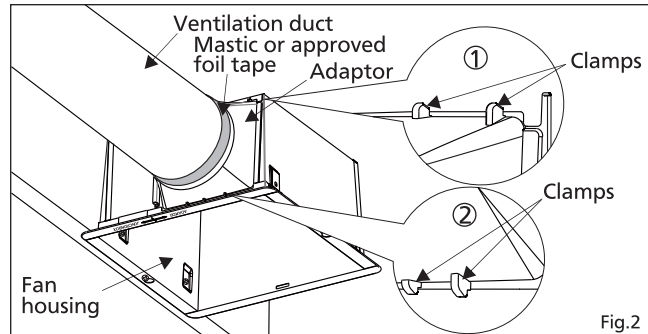

Fig.2
2. Install the ventilation duct and secure it with a clamp and seal it with mastic or approved foil tape. A 4 inch circular duct is needed to connect to the relevant part of adaptor. (Fig.2)
3. Slide the clamps of the adaptor to the top of the fan housing and then snap the clamps of the adaptor into the bottom of the fan housing opening. (Fig. 2)
2. Install the ventilation duct and secure it with a clamp and seal it with mastic or approved foil tape. A 4 inch circular duct is needed to connect to the relevant part of adaptor. (Fig.2 of page 8)
3. Slide the clamps of the adaptor to the top of the fan housing and then snap the clamps of the adaptor into the bottom of the fan housing opening. (Fig. 2 of page 8)